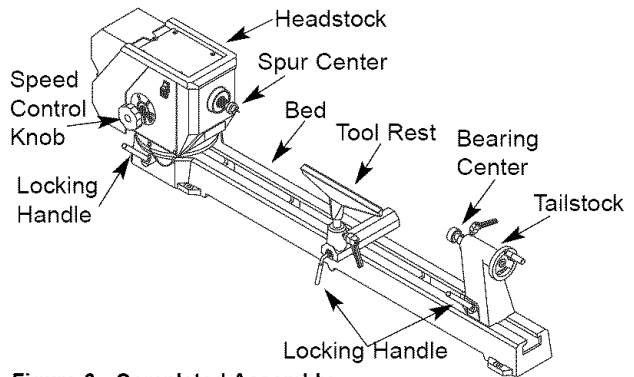

Figure 6 - Completed Assembly
- When the wood lathe is ready for use, it should appear as it does in Figure 6.